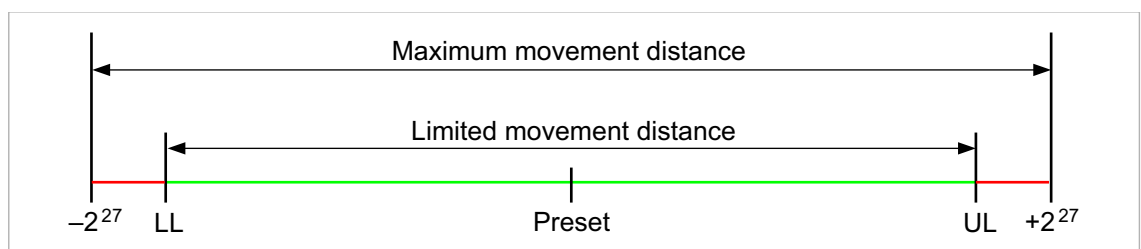

Fig. 3: Limitation of the travel distance when evaluating the binary data with sign (signed)
- ▶ Position limits can be defined (LL, UL) in the controller, which cannot be overrun, see Fig. 3.